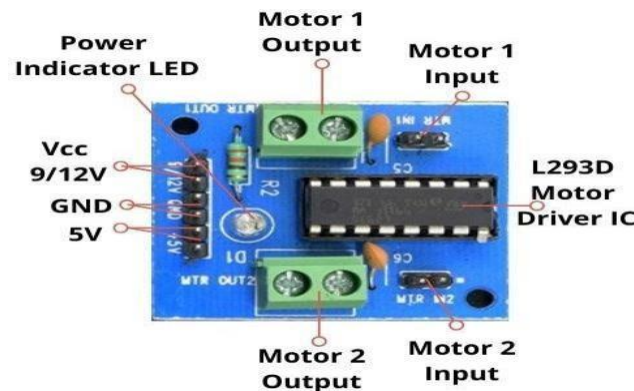

Fig 2.14 L293D module
The L293D module is a popular integrated circuit (IC) commonly used for driving DC motors and stepper motors in various applications. It's particularly useful in robotics, automation, and hobby projects. The module contains two H-bridge circuits that allow bidirectional control of two motors or a single stepper motor. Each H-bridge can drive a motor forward or backward, making it versatile for controlling motors' direction and speed. As shown in fig 2.14.